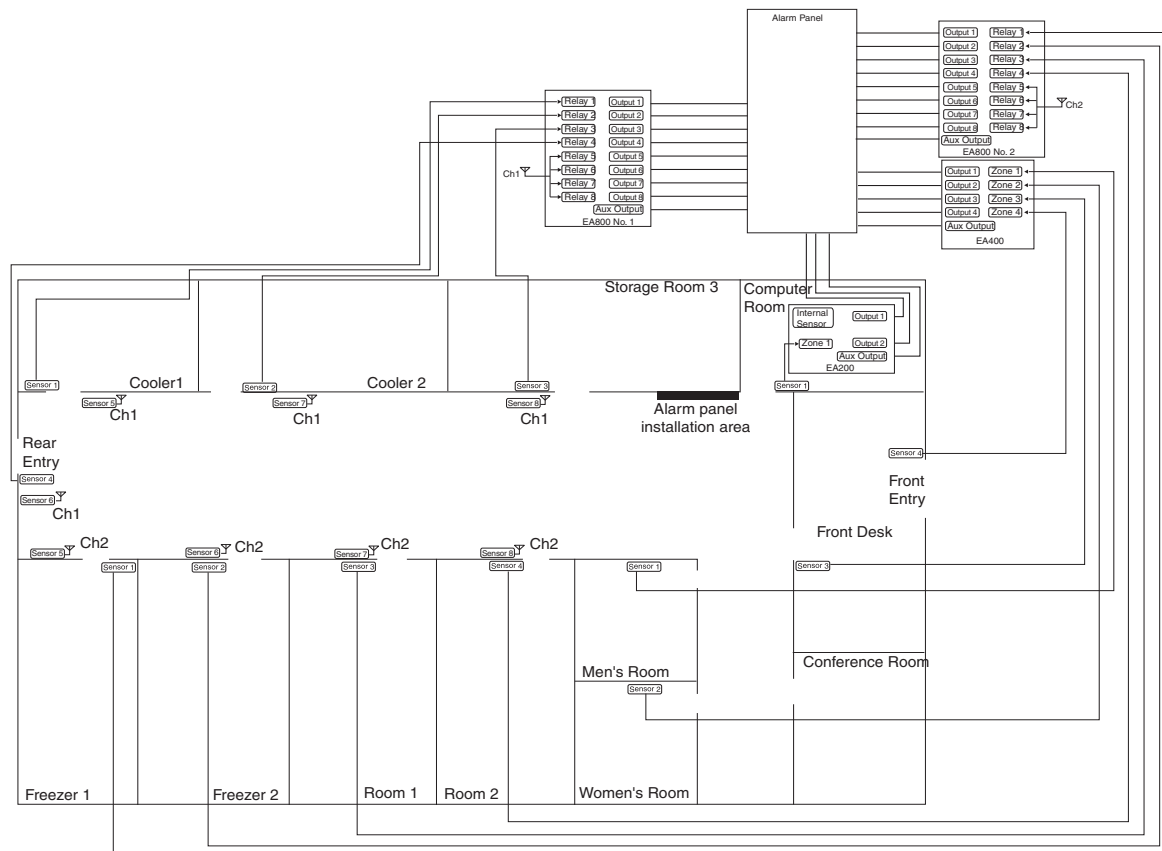

Figure 11 System Interconnect Wiring Diagram Example
12. Create an interconnect wiring diagram for the system. Identify the location of each sensor. An example of a system map is shown in Figure 11. This example illustrates a system that includes multiple EA800 Multi-Zone Environmental Alarm systems, a Winland EA400 Multi-Zone Environmental Alarm system, and a Winland EA200 Multi-Zone Environmental Alarm system.